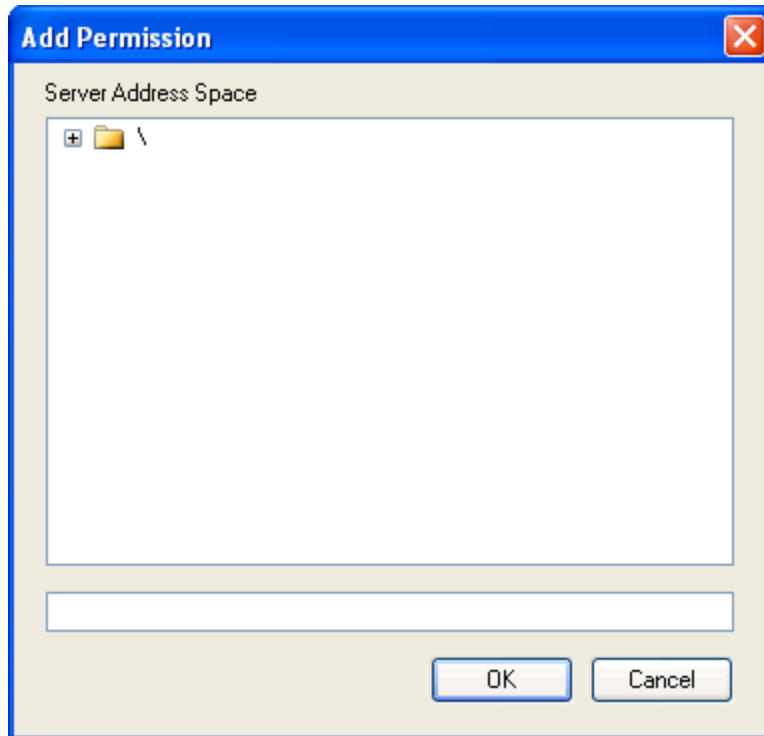

Figure 57 - Add User Permission Window
2. The **Add User Permission** window (Figure 57) appears. This window allows you to browse the OPC server address space to find either a path in the hierarchy, or a particular OPC item.